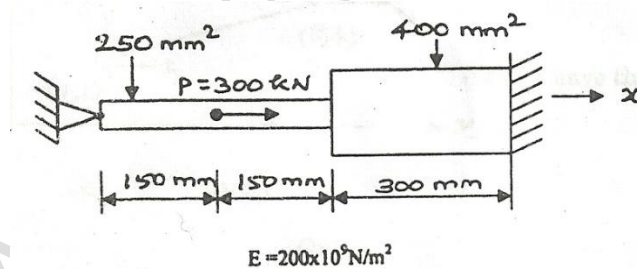

FIG.1 STEPPED BAR
38. Consider the stepped bar shown in Fig.1. Determine the nodal displacements and element stresses.